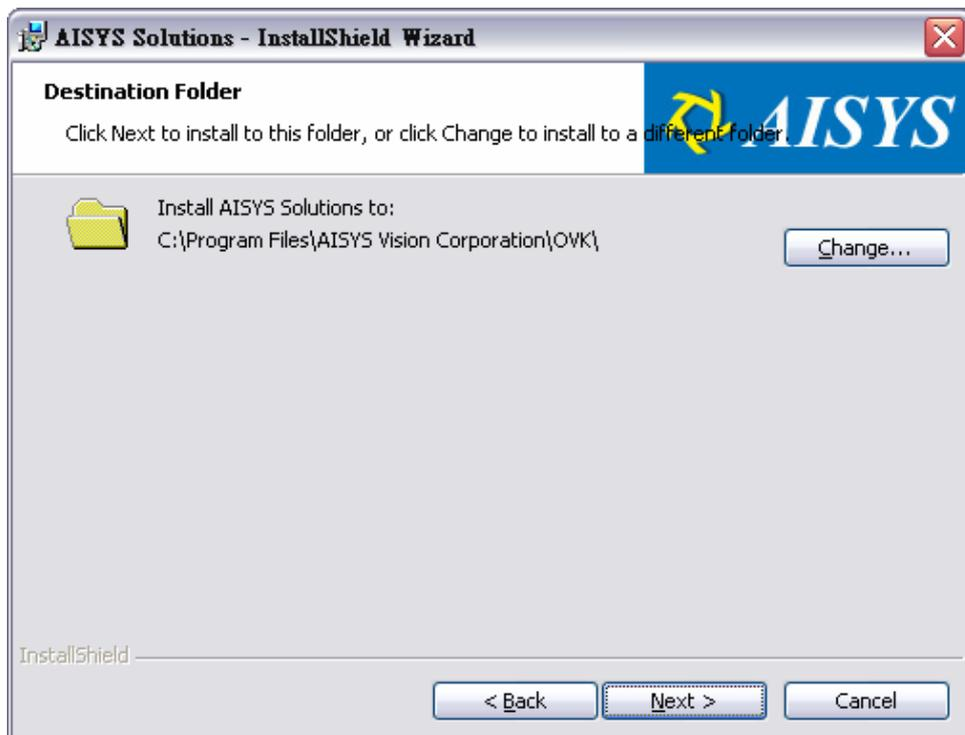

Figure 3.
3. Change the install destination of necessary and press the button “Next” to continue the procedures as shown in Figure 3.